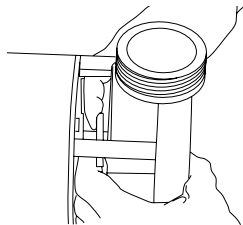

Figure 7
5. Screw impeller onto shaft until it seats against shaft shoulder. Work slinger over end of impeller sleeve so it rides on sleeve (Figure 7).